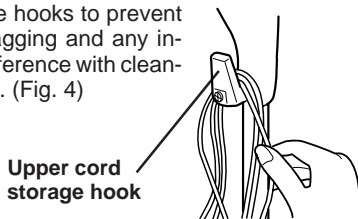

Fig.4
- 2** Wrap excess cord around the cord storage hooks to prevent dragging and any interference with cleaning. (Fig. 4)